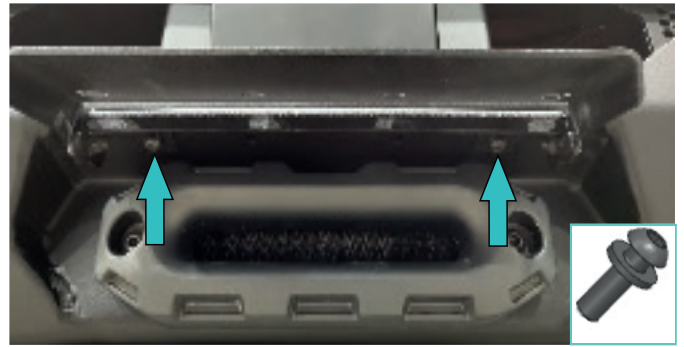

Fig.57
54. Install the license plate bracket (item 10) using screws M6x16, washers 6 and insert nut (item E, R, 28) (fig.57).